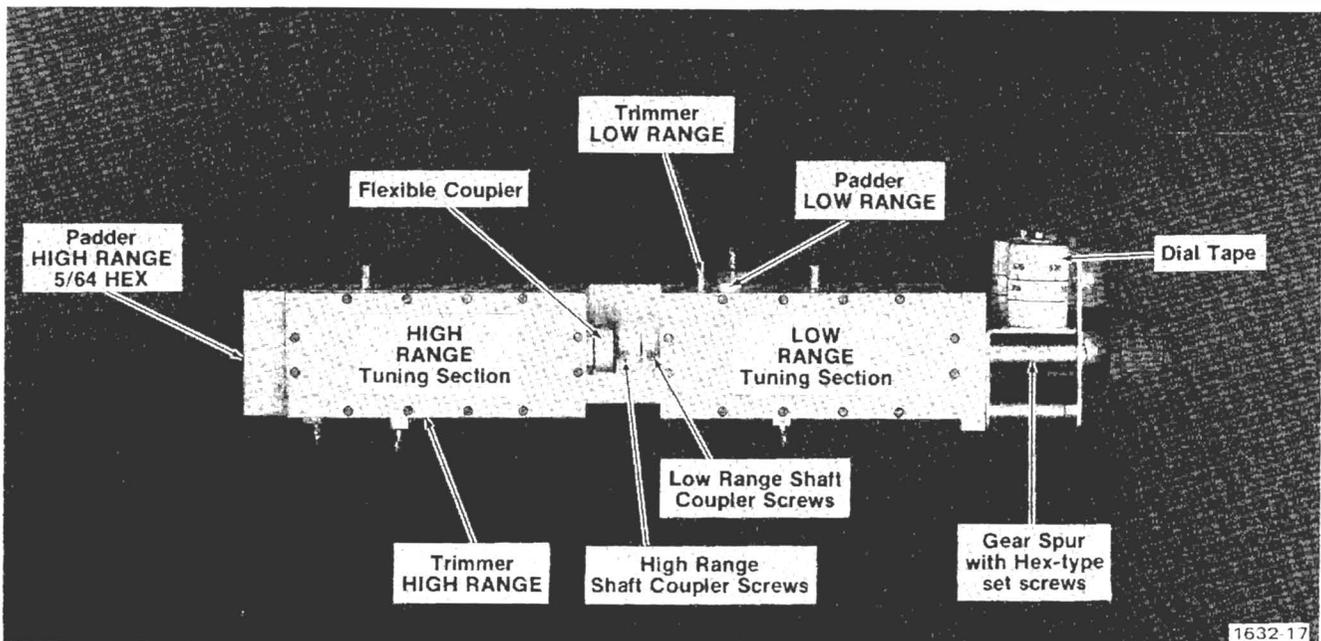

Fig. 3-7. Location of trimmer and padder adjustments on oscillator assembly.
b. To mechanically align the low range tuning section to the 450 MHz alignment point of the dial tape, loosen the two hex-type set screws located on the rear portion of the gear spur. Refer to Fig. 3-7 for reference.
h. Adjust—low range trimmer, until the SG 504 550 MHz signal and the spectrum analyzer 550 MHz marker coincide. See Fig. 3-7 for adjustment location.
j. Adjust—low range padder, until the SG 504 250 MHz signal and the spectrum analyzer 250 MHz marker coincide. See Fig. 3-7 for adjustment location.
e. To mechanically align the high range tuning section to the 750 MHz alignment point of the dial tape, loosen the two high range shaft coupler screws located on the rear portion of the flexible coupler. Refer to Fig. 3-7 for reference. Do not loosen the low range shaft coupler screws.
k. Adjust—high range trimmer, until the SG 504 1050 MHz signal and the spectrum analyzer 1050 marker coincide. See Fig. 3-7 for adjustment location.
m. Adjust—high range padder, until the SG 504 500 MHz signal and the spectrum analyzer 500 MHz marker coincide. See Fig. 3-7 for adjustment location.